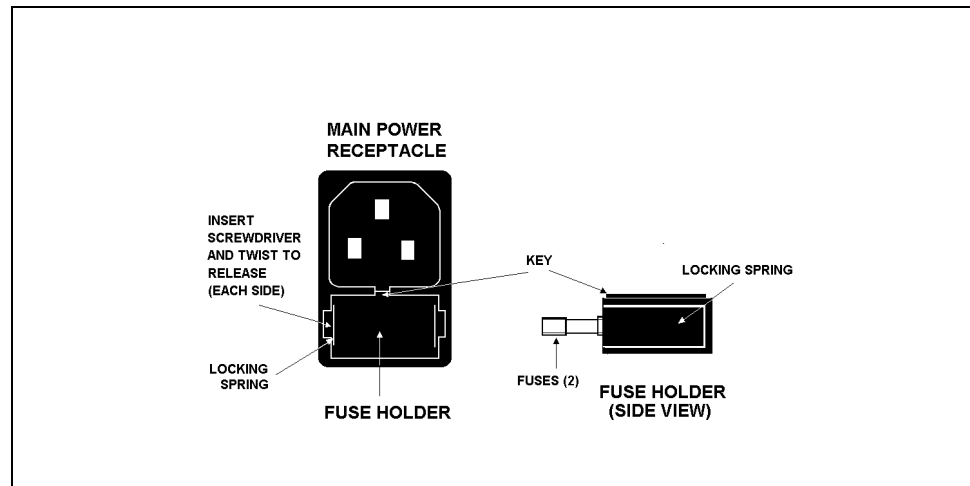

Figure 5-1. Main Power Receptacle
2. The fuse holder is part of the main power receptacle on the rear panel (see Figure 5-1). A recessed lock is located on each side of the fuse holder. Use a small screwdriver, or your fingernails, to push each lock toward the center to release it. The fuse holder will pop out about 0.16 cm (1/16 in) when the locks release. Repeat the process for the other fuse lock. When both locks are released, pull the fuse holder straight out of its compartment.